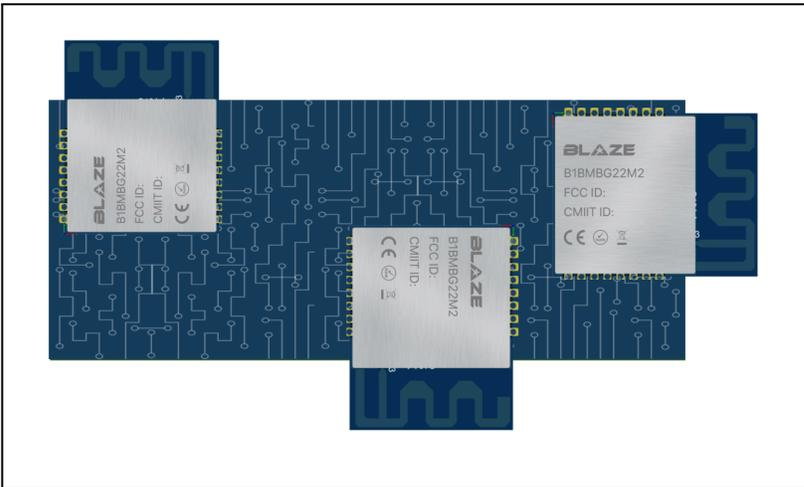

Figure 10.2. BLE Module placements with Antenna position Overhang – multiple positions
- ❑ Keep the antenna away from metal conductors as shown in Figure 10.2.